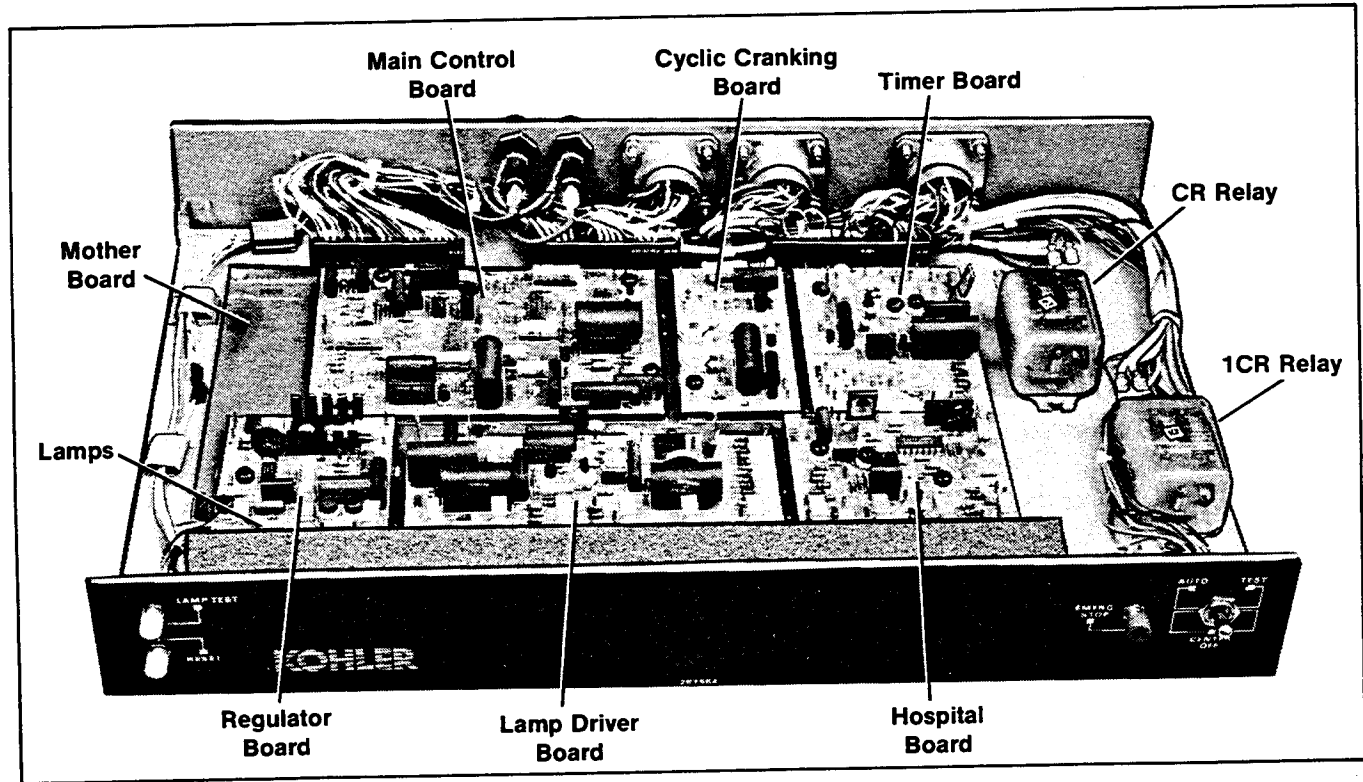

Figure 3-4. Controller Tray
- if other lamps do not light, check/replace 3 amp fuse at rear of controller, and/or replace bulbs as needed. See Figure 3-4.